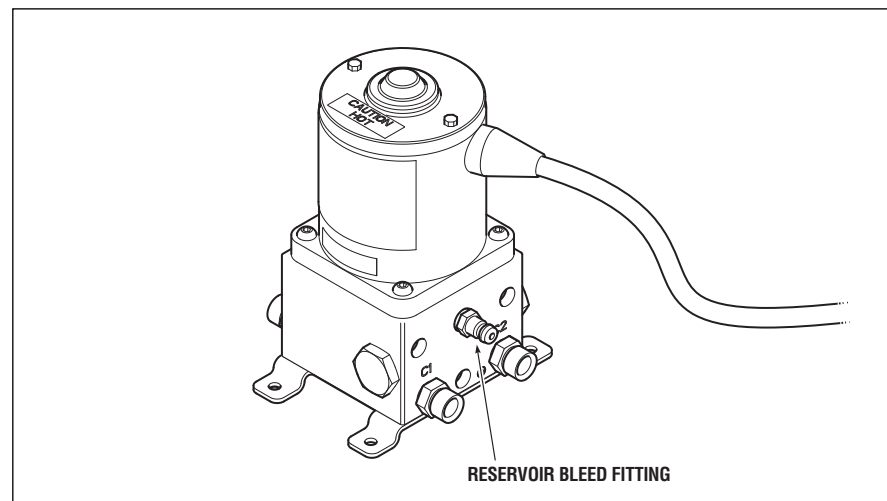

Figure 8
- Open Autopilot pump reservoir bleed fitting. Refer to figure 8.
- Connect one of the fluid return hoses (cylinder lines) from the Power Purge unit to the reservoir bleed fitting on the SeaStar Autopilot pump (see figure 8 on page 16 for bleed fitting location).